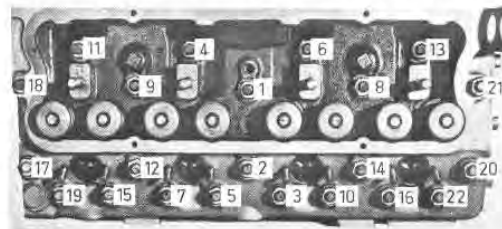

Fig. B20 — Cylinder Head Nut Tightening Sequence
14. Remove the cylinder head nuts in the reverse order of the tightening sequence. Fig. B20.
Lightly oil nuts and studs before fitting. Tighten cylinder head nuts progressively in three stages in the order shown in Fig. B20 until a torque of 85 lbs./ft. is achieved. The final stage should be repeated.